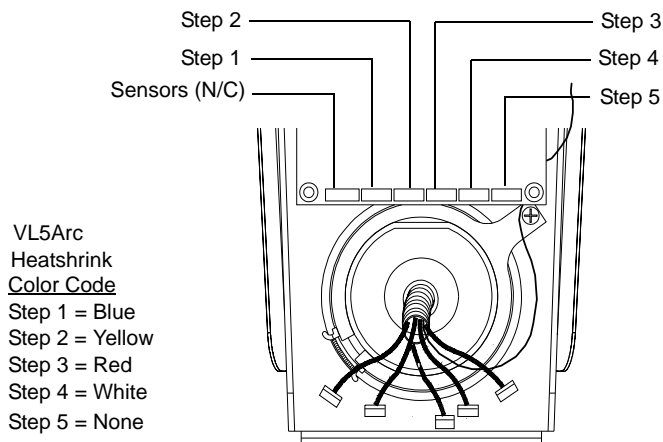

Figure 2-11: Disconnecting VL5Arc Motor Wires at LCB
- a. At LCB, disconnect five 4-pin MTA connectors at STEP 1 through STEP 5. **Figure 2-11.**